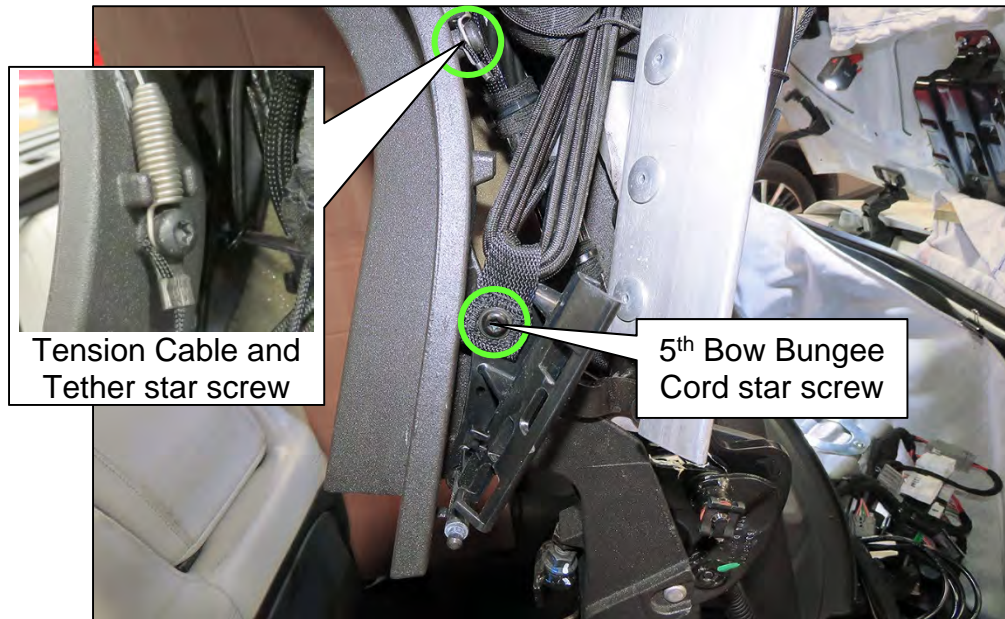

Figure 232
245. Remove one (1) star screw that retains the 5th Bow Bungee Cord (Figure 232).
246. Remove one (1) star screw that retains the Tension Cable and Tether (Figure 232).